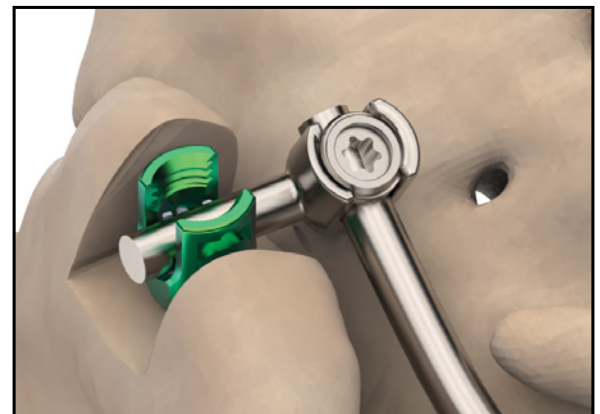

Figure 3.2
2. The Offset Connector is preloaded onto the rod in the appropriate orientation prior to placement of the adjoining rod into the Modular Housing. Care must be taken to ensure that at least 1.0mm of the Offset Connector rod is extending out of the lateral side of the Modular Housing (Figure 3.2).